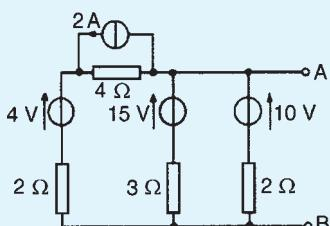

Figure 13.79
4. Determine, by successive conversions between Thévenin and Norton equivalent networks, a Thévenin equivalent circuit for terminals AB of Fig. 13.79. Hence determine the current flowing in a $6\ \Omega$ resistor connected between A and B.